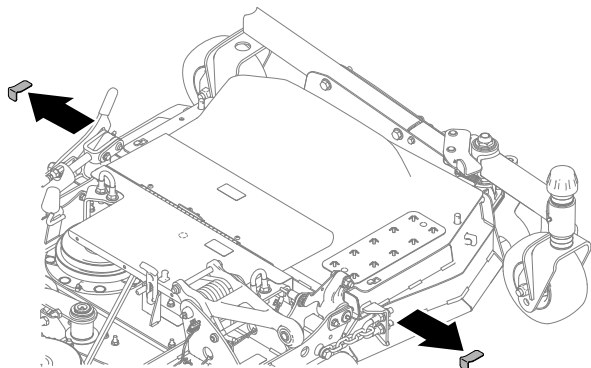

Figure 39
6. Remove the shims or feeler gauges (Figure 39).